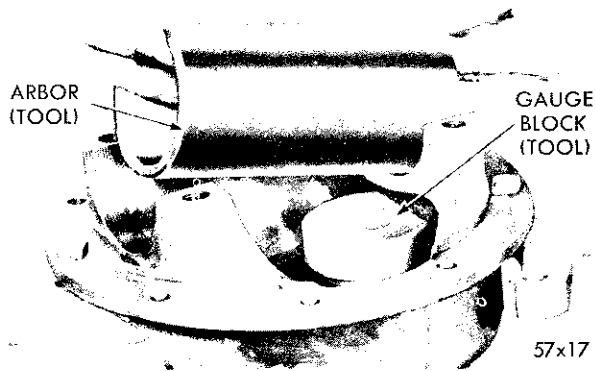

Fig. 23—Installing Arbor in Differential Bearing
- (2) Position the arbor SP-561 (part of Tool C-758-D3) in the differential bearing pedestals of carrier (Fig. 23). Center the arbor so that an approximate equal distance is maintained at both ends. Position the differential bearing caps and attaching bolts on the carrier pedestals. Between the arbor and each cap, insert a piece of .002 inch feeler stock and tighten the cap bolts securely.